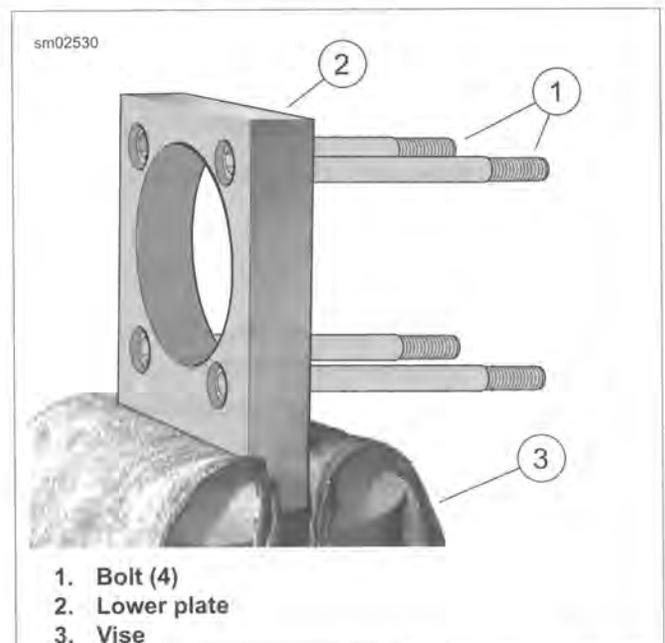

Figure 3-55. Attaching Cylinder Torque Plates
- b. See Figure 3-55. Clamp the stepped side of the lower plate in a vise with soft jaws.
- c. Lightly oil threads and shoulders of four bolts (1) with clean engine oil and slide through holes of lower plate (2).
- e. Place a used head gasket on cylinder and install upper plate with blind holes aligned with dowel pins in cylinder. Secure with bolts (1).